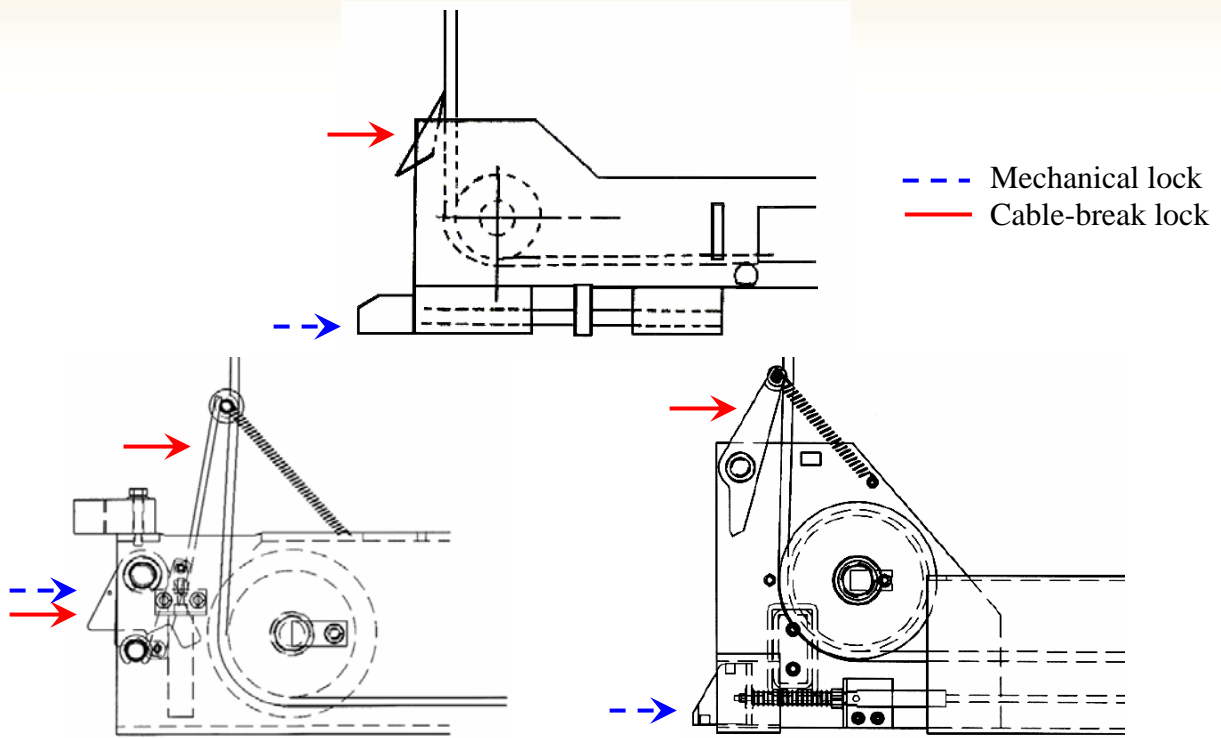

Figure 8 Safety locking systems.
2. Safety Locking Systems (Figure 8)